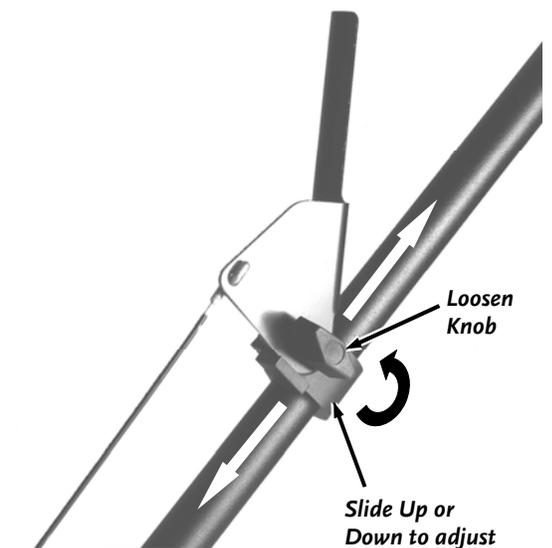

Figure 14
1. Loosen the Knob on the PTA™ Control by turning it counterclockwise (**Figure 14**).